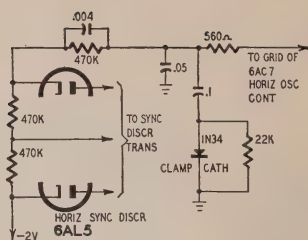

Fig. 4—A.f.c. stabilization circuit.
6. Connect a 1N34 diode as a d.c. clamp for the a.f.c. circuit (Fig. 4).